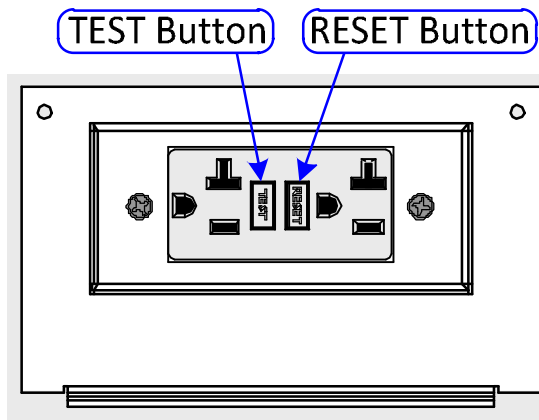

Figure 3, MS-GFCI Front View
- a) Ensure the GFCI's **RESET** button (see Figure 3) is not "tripped" (the **RESET** button is tripped if the button is flush with the face of the **TEST** button). If fully pushing the **RESET** button does not cause it to light up, then the wire connections from the GFCI outlet to the inverter are not attached correctly, repeat Steps 3 and 4 of the installation; or,